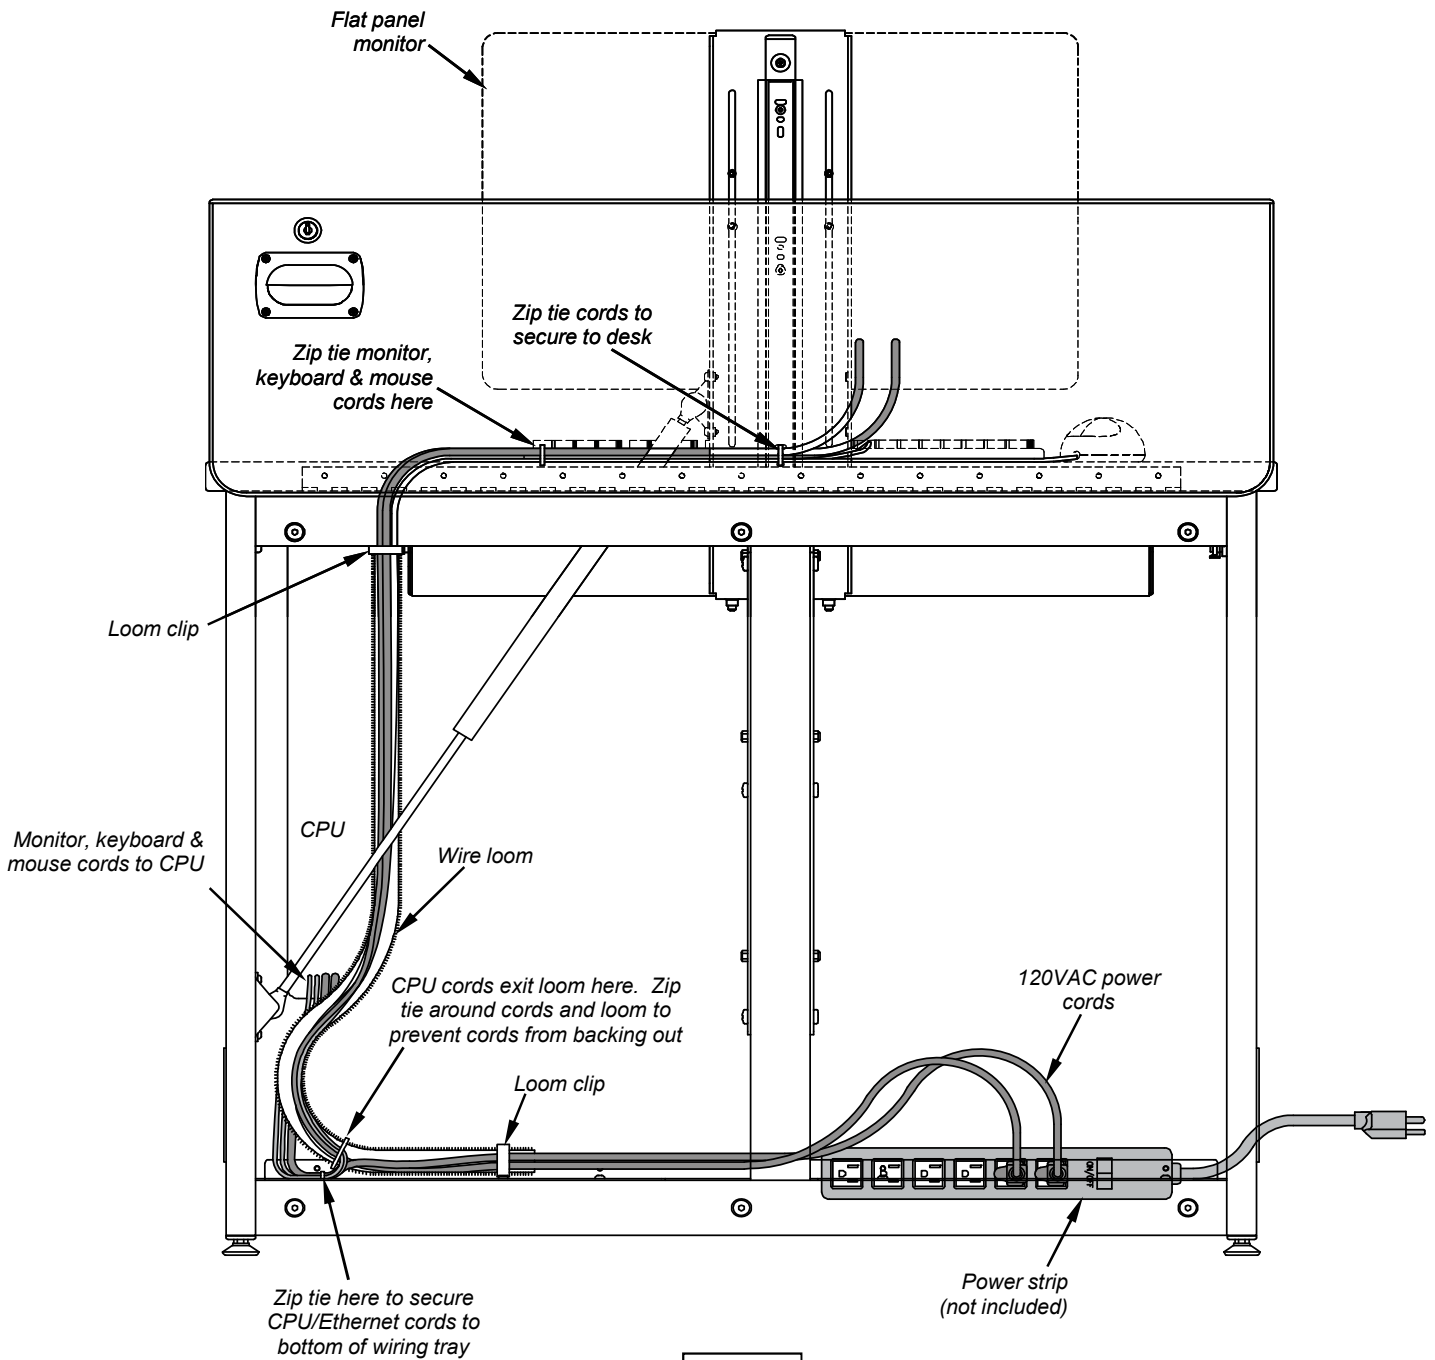

Figure 5D
- E. With the loom removed, feed the monitor, keyboard, and mouse cords through the sliced opening of the loom to the bottom of the desk as shown. **Figure 5D.**
- H. Secure the CPU cords to the bottom of the loom by attaching a zip tie around the loom directly above where the CPU cords exit the loom. This will prevent the cords from backing out of the loom. **Figure 5D.**